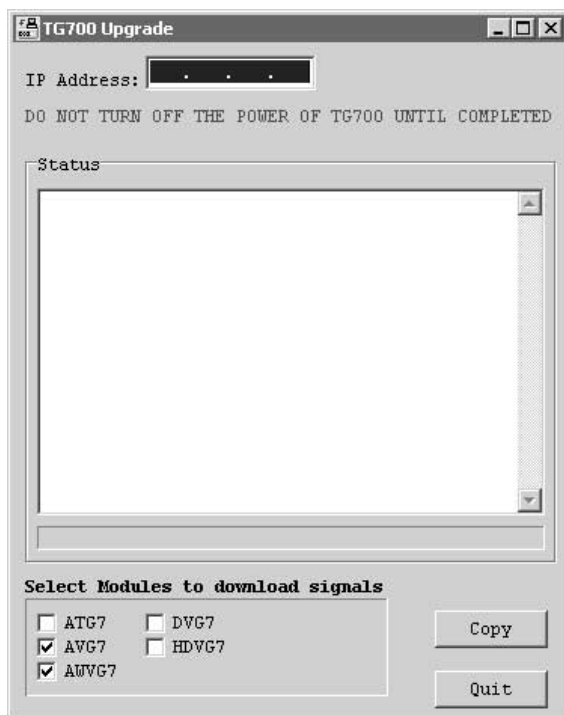

Figure 6: TG700 Upgrade dialog box
7. Double-click the **TG7Upgrade.exe** icon in the folder. The **TG700 Upgrade** dialog box appears as shown in Figure 6.